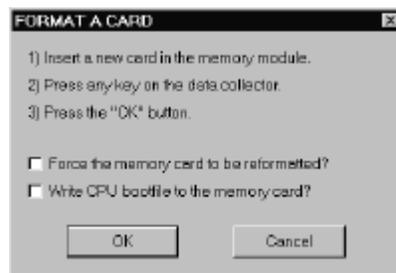

Figure 2-4 Format a Card Dialog Box
7. The **Format a Card** dialog box appears (Figure 2-4).